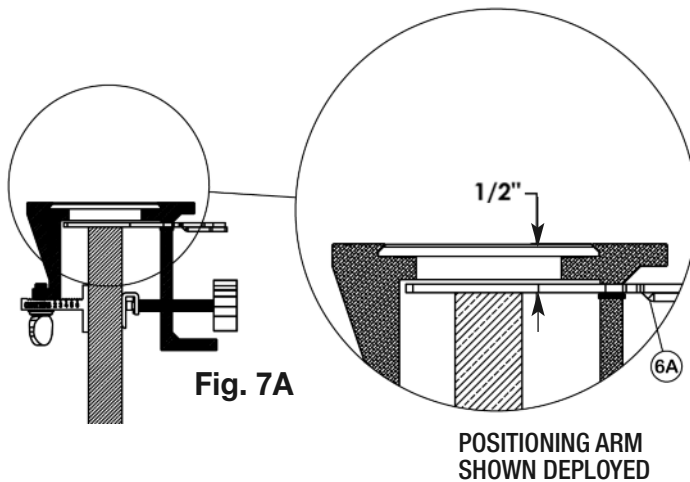

Fig. 7A
- When the stock is correctly mounted in the jig, its top edge will be 1/2" below the top (working) surface of the jig (Fig.7a).